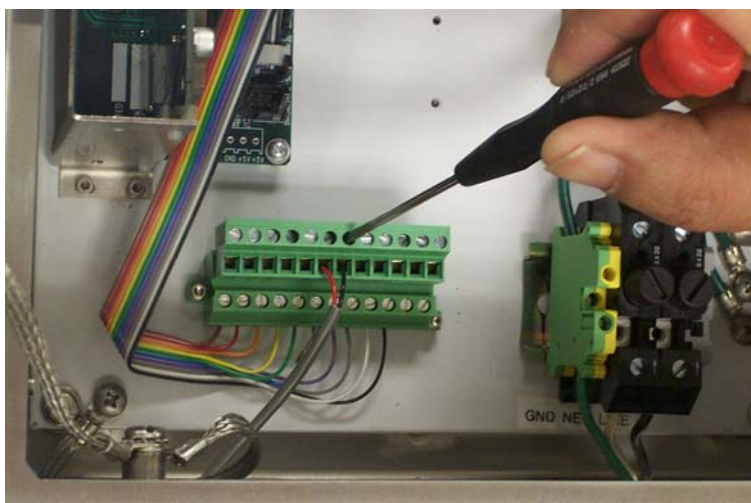

Figure 14: Replace block on base and check to make sure all terminals are connected tightly.
7. Reinsert the mating terminal block into the base and verify that the terminals are tight (see **Figure 14** on page 25).